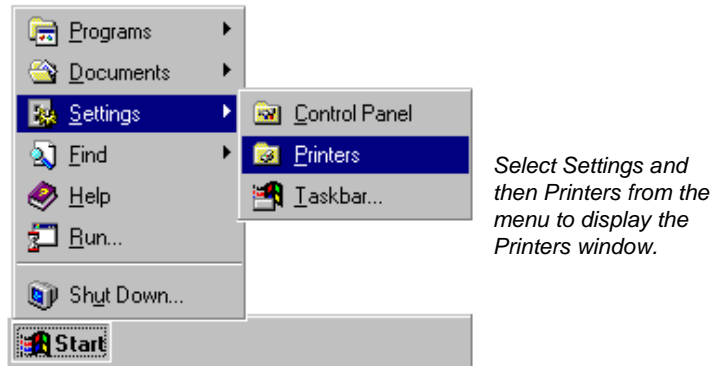

Figure 3-1 Open the Printers dialog box
- ❶ Windows 95/98 has no default document properties dialog box.
2. Select Settings and then Printers (see Figure 3-1 on page 3-3). The Printers window appears.